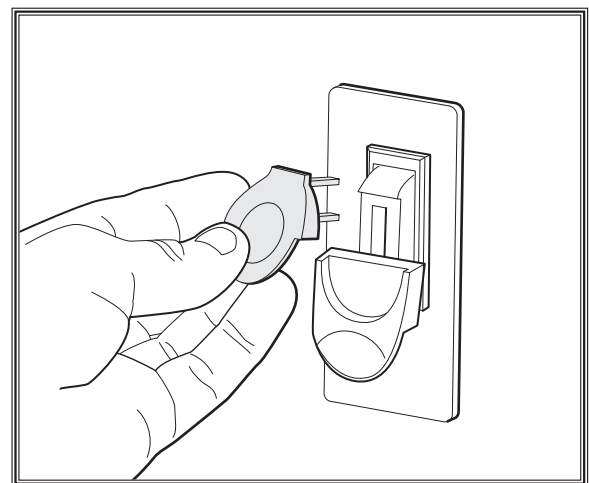

Figure 9. Removing switch key from paddle switch.
6. Remove the switch disabling key (see **Figure 9**).